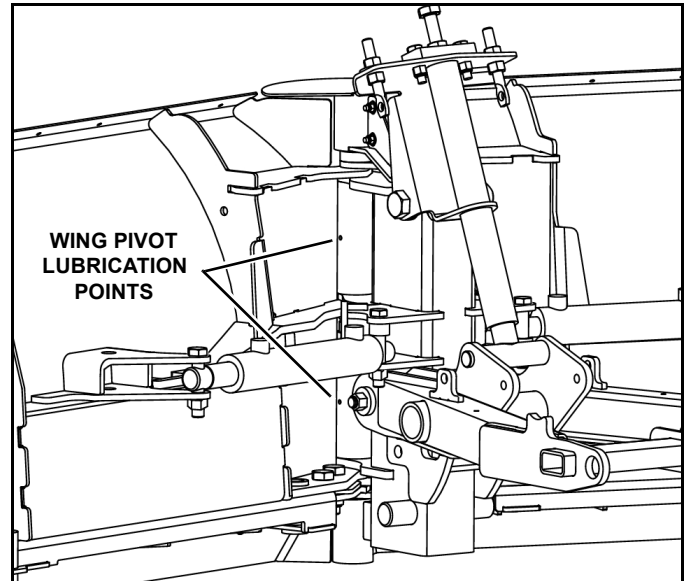

Figure 2-1
3. Apply oil or grease to the wing pivot pin through two lubrication holes provided in the pin housing (See Figure 2-1).